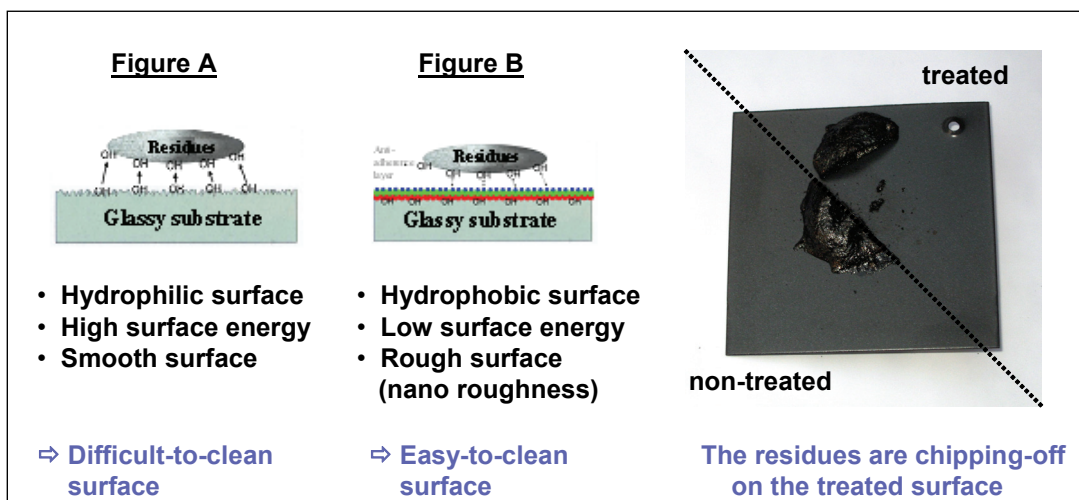

Fig. 6 NanoClean action
5.2 NanoClean / its action (Fig. 6)